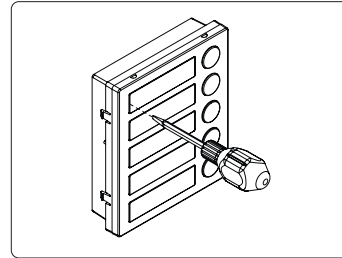

Fig. 10
- Insert the screwdriver (flat side) into the card-holder hole as shown in **Fig. 10**